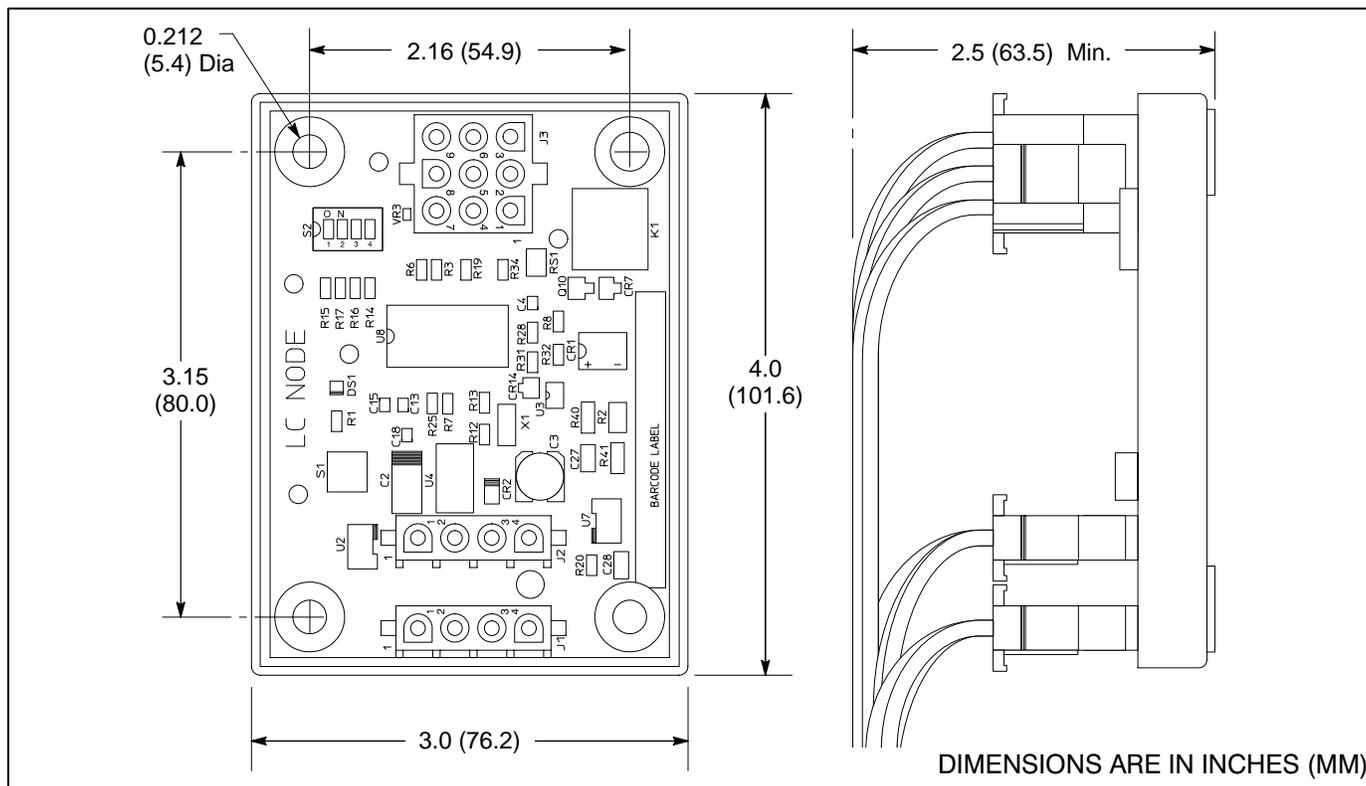

FIGURE 6-1. LOAD CONTROL NODE
1. Choose a location that provides adequate clearance for the communications cable (see Figure 6-1). An acceptable location for mounting most Load Control Nodes is near the load it is controlling.
2. Drill mounting holes as shown in Figure 6-1. Make sure you do not drill into other electrical components.
1. Choose a location that provides adequate clearance for the communications cable (see Figure 6-1). The suggested location for mounting Dometic air conditioner Load Control Nodes is next to the Dometic Automatic Generator Start (AGS) control box.
2. Drill mounting holes as shown in Figure 6-1.
1. Choose a location that provides adequate clearance for the communications cable (see Figure 6-1). The suggested location for mounting a Coleman air conditioner Load Control Node is next to the RV Products A/C control box.